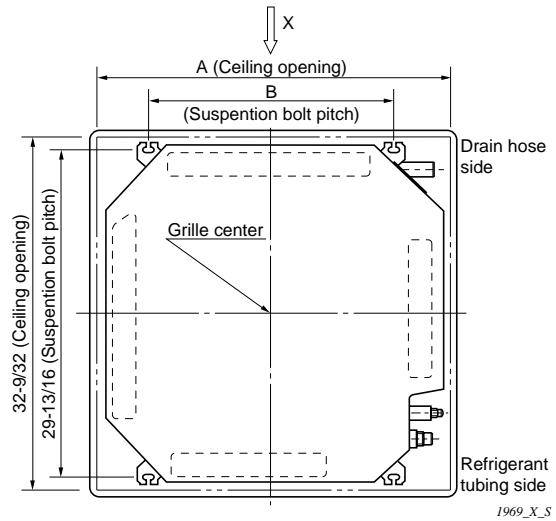

Fig. 2-2
- (2) Follow Fig. 2-2 and Table 2-1 to make the holes in the ceiling.